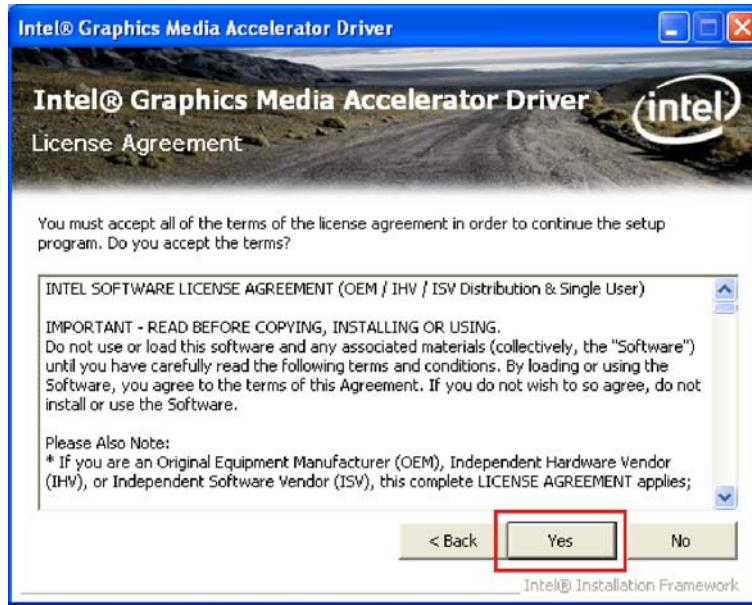

Figure 7-12: VGA Driver License Agreement
Step 8: The license agreement in **Figure 7-12** appears.